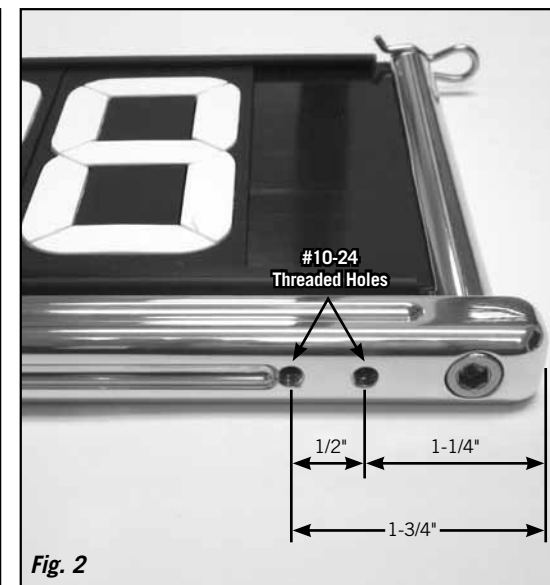

Fig. 2
Step 2: The two mounting holes in the taillight housing are drilled 1/2" apart. If mounting this taillight to a Lokar Dial-In Board and the adjustable arm is not already drilled and tapped, drill with a #25 drill bit and tap these two holes with a #10-24 tap. The first hole should be 1-1/4" from the end of the dial-in board arm. The second hole should be 1-3/4" from the end of the dial-in board arm. **Fig. 2**